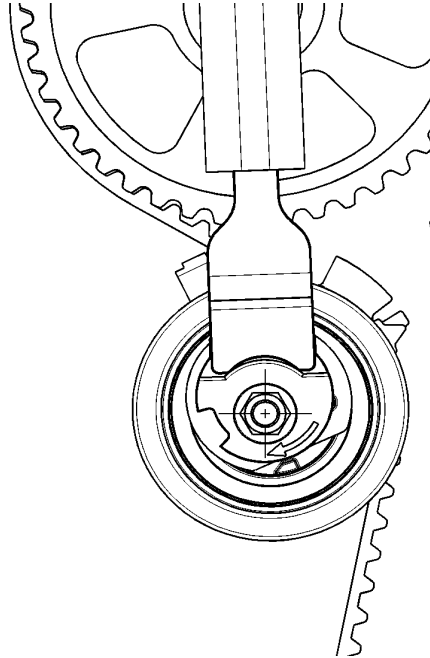

Figure 11: Stop Rotating when the Arm Pointer reaches the edge of the Base Plate.
14. Continue rotating Installation Shaft **CLOCKWISE** to pass the nominal position, until the arm pointer approximately reaches the edge of the base plate. See Fig. 11.